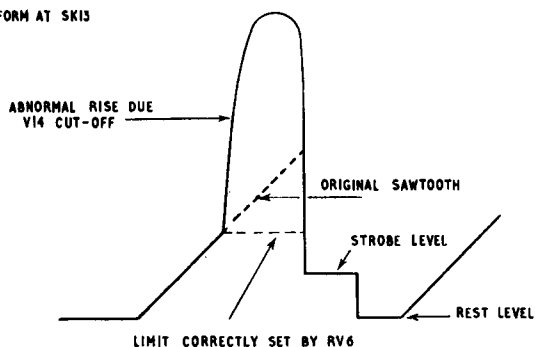

Fig. 12. Limiting in trace expansion amplifier
36. Diode limiters V10A and B are included to prevent either tetrode from ever being cut off or going into excessively heavy conduction. If there were no limiting, a large positive voltage at V11B grid (for example) would cause a large fall at V14 grid, cutting it off; at the same time, V15 would be driven into excessive conduction. This interruption of the feedback loop would allow an even greater rise at V11B grid, and thus an abnormally large rise at V11A anode, which could be seen by connecting an oscilloscope to SK13. Fig 12 shows the effect of a large positive sawtooth input (e.g. at full trace expansion) when there is no limiting; the abnormal rise starts at the point of the sawtooth corresponding to V14 cut-off. Though this effect occurs well beyond the edge of the tube face, it is undesirable because of the heating drift effects already referred to in para. 20, which would cause centre wander. V10A is therefore included to limit the positive excursion of the input waveform to V11B grid just before the abnormal rise starts; RV6 controls the return potential for V10A and so the exact limiting level, whose correct position is shown by the horizontal broken line in fig. 12.
37. Similarly, it is essential to limit the negative excursion at V11B grid, in order to prevent V15 from cutting off or V14 from being driven into excessive conduction. The limiter here is diode V10B, whose anode is returned to a small positive potential set by RV7. To set up this limiter, a negative sawtooth is applied at SWB, maximum trace expansion is switched in, and the oscilloscope is connected to SK14. RV7 is then adjusted so that limiting occurs just before the abnormal rise starts (fig. 12).